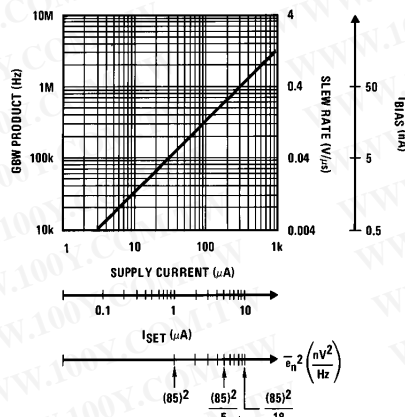

FIGURE 3. LM146 Typical Characteristics
**Isolation Between Amplifiers:** The LM146 die is isothermally laid out such that crosstalk between *all* 4 amplifiers is in excess of -105 dB (DC). Optimum isolation (better than -110 dB) occurs between amplifiers A and D, B and C; that is, if amplifier A dissipates power on its output stage, amplifier D is the one which will be affected the least, and vice versa. Same argument holds for amplifiers B and C.
**LM146 Typical Performance Summary:** The LM146 typical behaviour is shown in Figure 3. The device is fully predictable. As the set current,  $I_{SET}$ , increases, the speed, the bias current, and the supply current increase while the noise power decreases proportionally and the  $V_{OS}$  remains constant. The usable GBW range of the op amp is 10 kHz to 3.5–4 MHz.